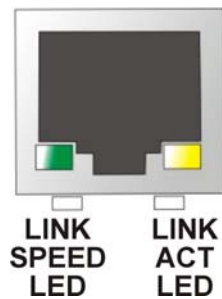

Figure 3-24: Ethernet Connector
- CN Pinouts:** See Table 3-26 and Figure 3-24